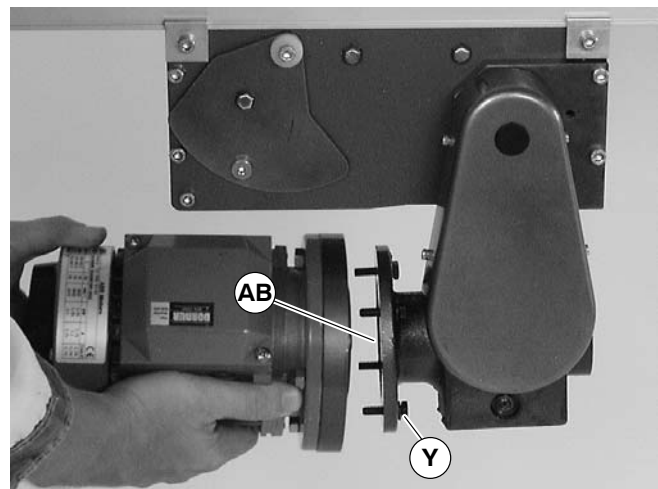

Figure 22
5. With key (AB of Figure 22) in keyway, slide motor and gear reducer together. Install screws (Y) and tighten.